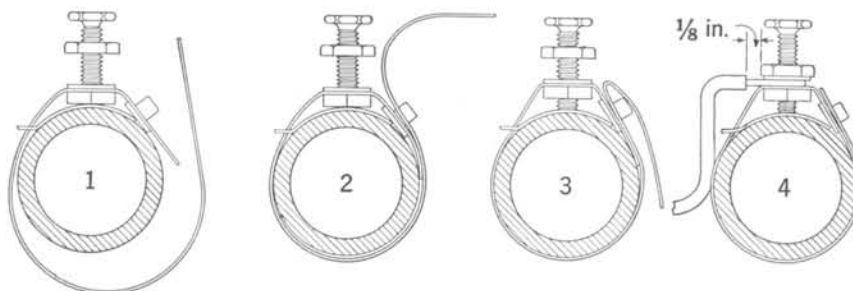

FIG. 2—GROUND CLAMP INSTALLATION—SMALL PIPE
4.04 Install ground clamp as follows and as shown in Fig. 2: